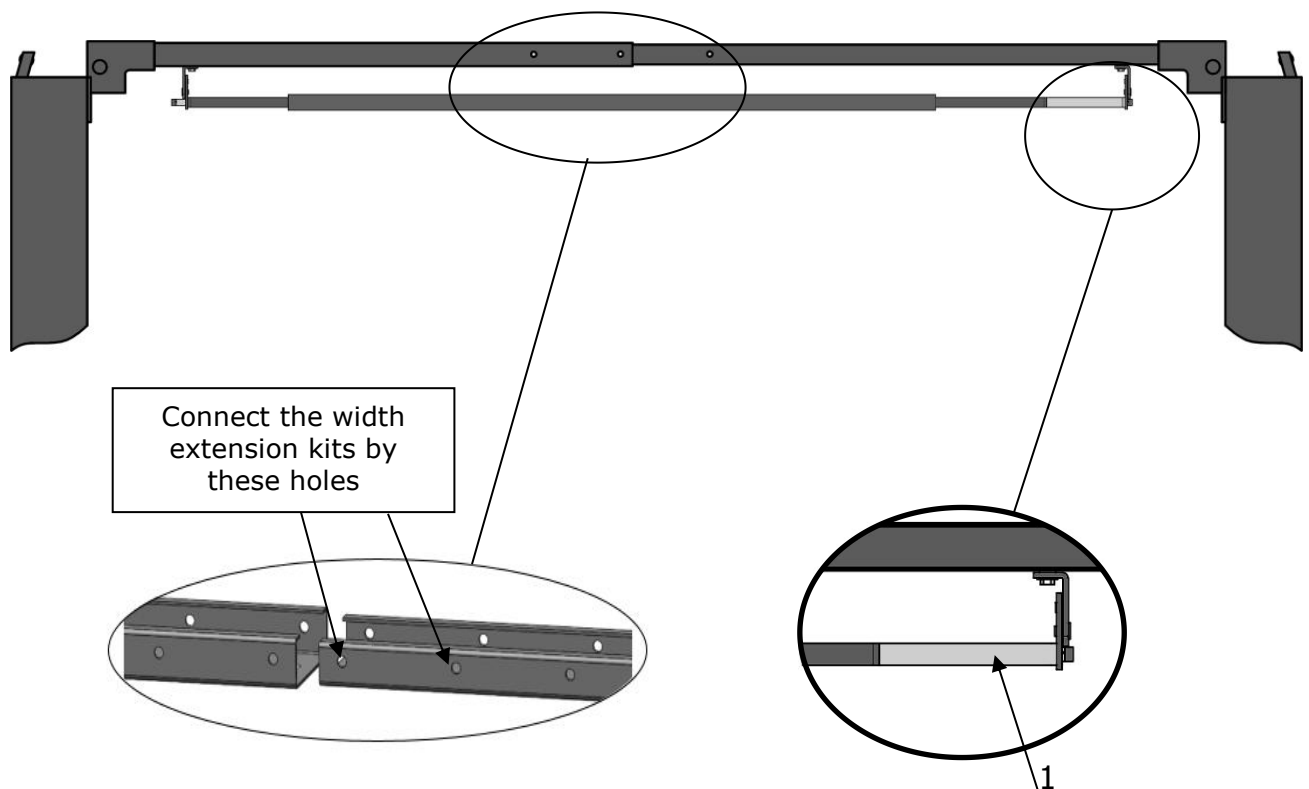

Fig. 47
- 1. Install the limit switch control bar and top beam (See Fig. 47).**